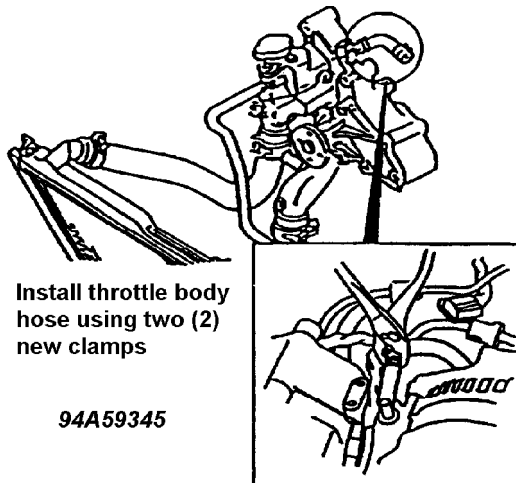

Fig. 47: Installing Throttle Body Hose (N3A1-13-692A)
- Replace the front throttle body water hose with a new one and attach it with two new hose clamps. See Fig. 47.